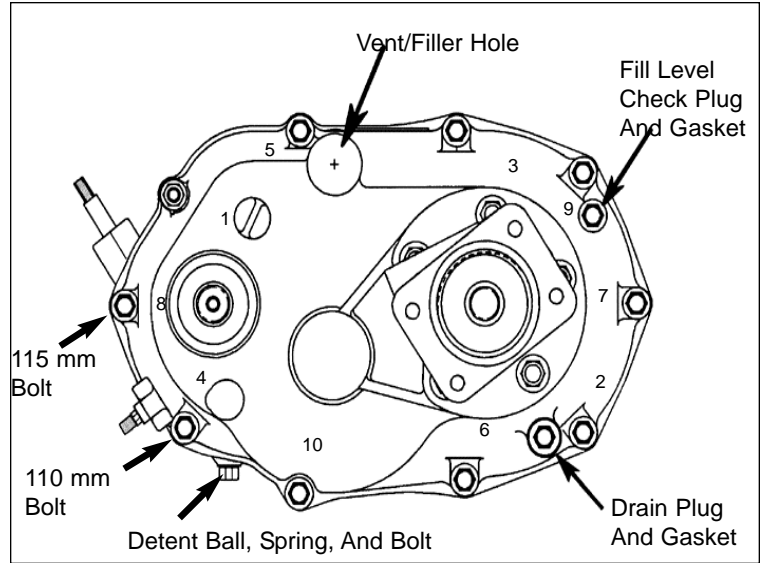

**Figure 47 - Install Counter Shaft Assembly**
- Apply grease to the bore of the counter gear and place it over the spacer. Slide the counter shaft through the gear, spacer, and into the case bore. See Figure 47.